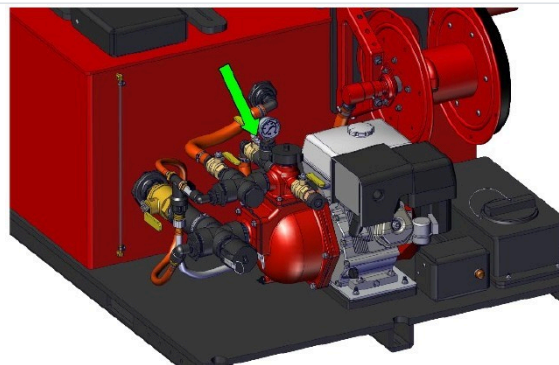

Figure 10. 1" Pump to Tank valve open
4. Open the 1" Pump to Tank valve (Figure 10).